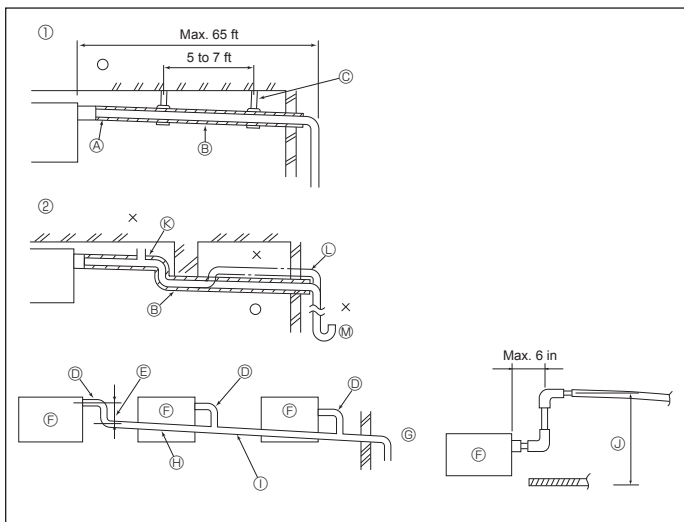

Fig. 6-1
6.1. Drainage piping work (Fig. 6-1)
- ① Correct piping
- ② Wrong piping
- ③ Insulation (9 mm (11/32 inch) or more)
- ④ Downward slope (1/100 or more)
- ⑤ Support metal
- ⑥ Air bleeder